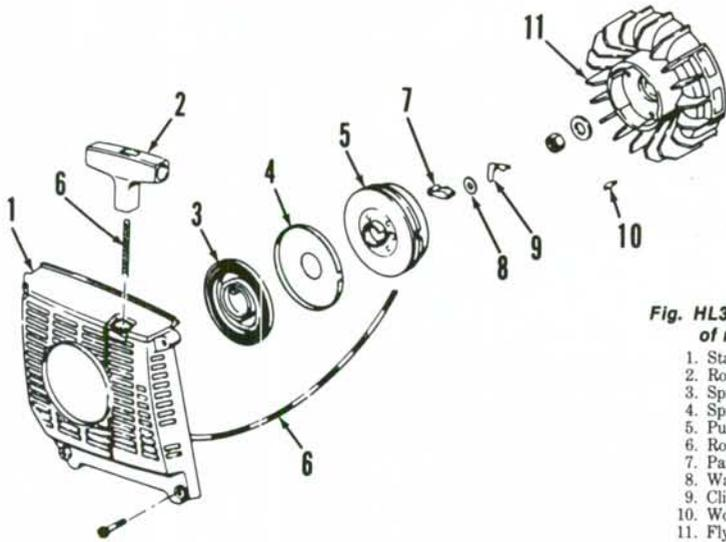

Fig. HL381—Exploded view of rewind starter.
REWIND STARTER. Refer to Fig. HL381 for an exploded view of the rewind starter. To disassemble starter, remove starter from saw, then detach rope handle and allow rope to wind into starter housing. Remove clip (9) from starter post and remove pulley (5). If rewind spring (3) must be removed, lift out retainer and spring while being careful not to dislodge spring. Take care not to allow spring to unwind uncontrolled when separating spring from container.